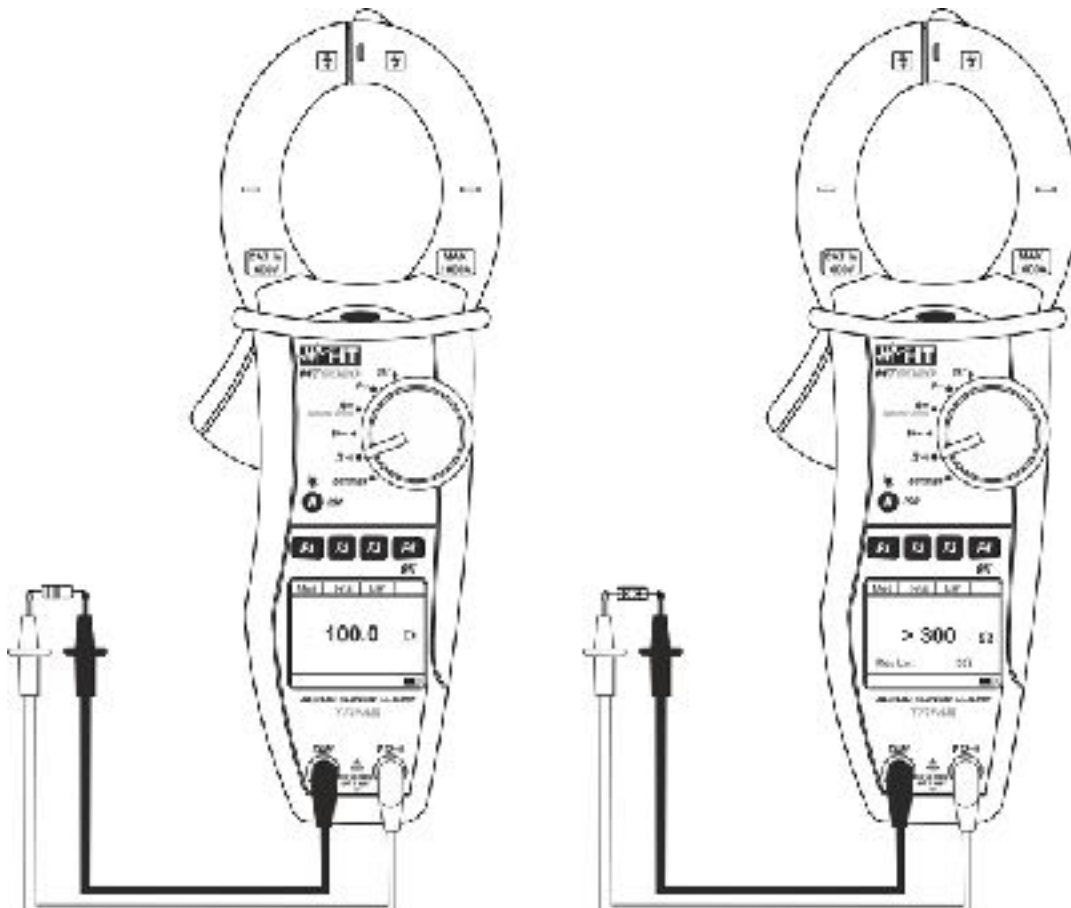

Fig. 14: Resistance measurement
4. Connect red cable to the input lead **VΩ** and black cable to the input lead **COM**, then connect the instrument as described in Fig. 14